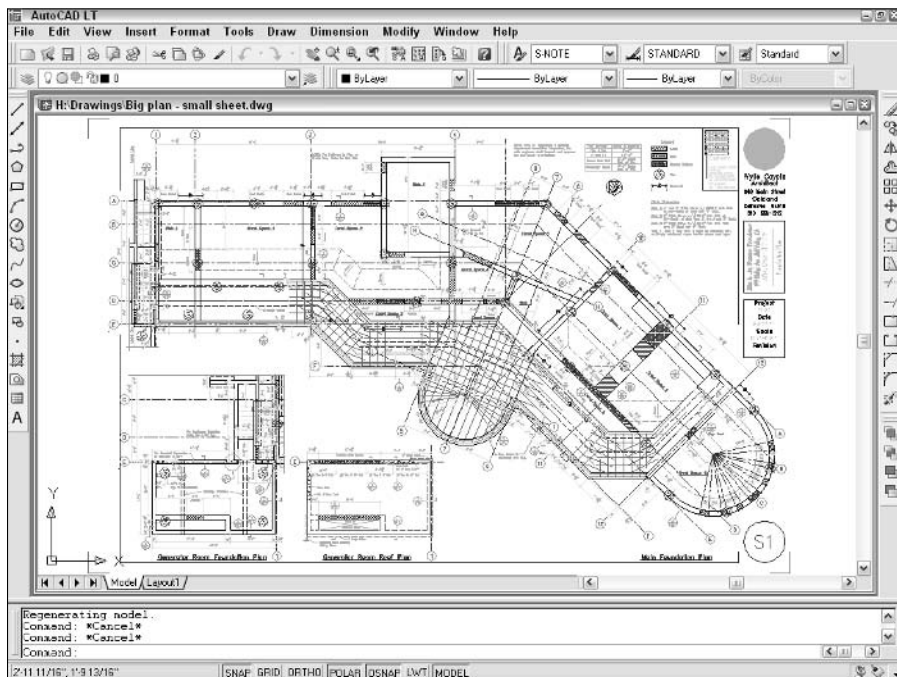

Figure 5-3:
- ✓ Most drawings require some annotations — text, grid bubbles, and so on — outside the objects you’re drawing, plus a title block surrounding the objects and annotations. If you don’t leave some room for the annotations and title block, you end up having either to cram things together too much or to change to a different sheet size. Either way, you’re slowed down later in the project when you can least afford it. Figure 5-3 shows an extreme example of selecting a sheet size that’s too small or, conversely, a drawing scale that’s too large. In this example, the building is too long for the sheet, and it overlaps the title block on both the right and left sides.